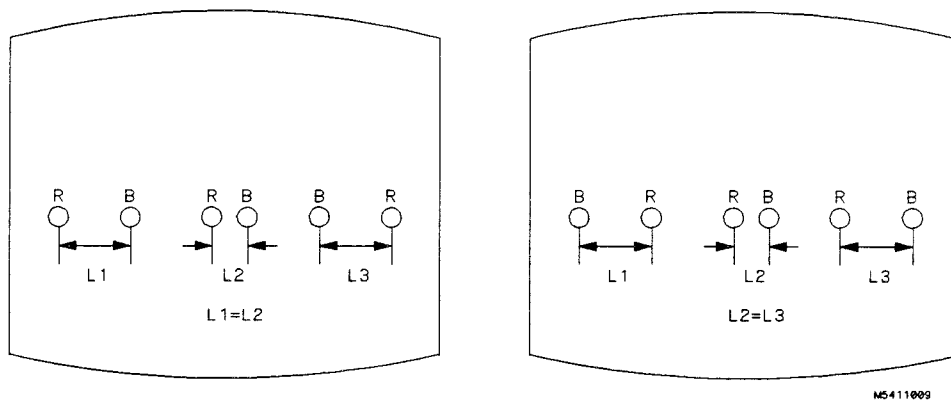

Figure 4-12. H.AMP Adjustment
5. Adjust H.AMP (RV807) on bottom PC board for equal amounts of misconvergence at right and left sides of screen. Refer to figure 4-12.